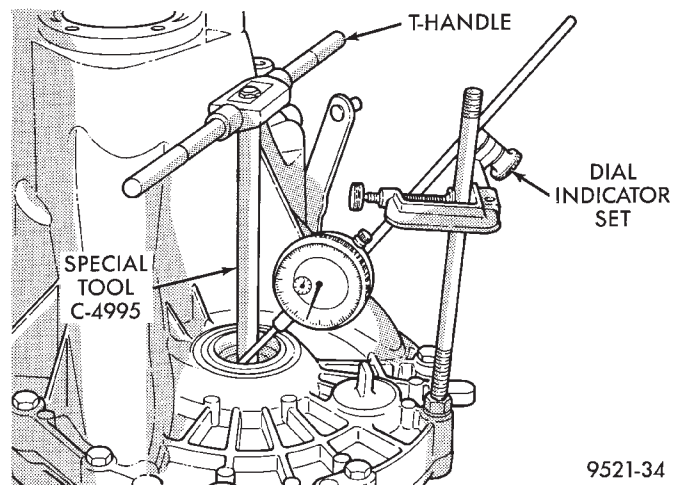

Fig. 151 Checking Differential Bearing End Play to Determine Shim Thickness
(1) Remove bearing cup and existing shim from clutch bellhousing case.
(2) Press in new bearing cup into bellhousing case (or use a cup that has been ground down on the outer edge for ease of measurement).
(3) Press in new bearing cup into gear case side.
(4) Oil differential bearings with Mopar® type M.S. 9417 Manual Transaxle Fluid. Install differential assembly in transaxle gear case. Install clutch bellhousing over gear case. Install and torque case bolts to 29 N-m (21 ft. lbs.).
(5) Position transaxle with bellhousing facing down on workbench with C-clamps. Position dial indicator.
(6) Apply a medium load to differential with Tool C-4995 and a T-handle, in the downward direction. Roll differential assembly back and forth a number of times. This will settle the bearings. Zero the dial indicator. To obtain end play readings, apply a medium load in an upward direction while rolling differential assembly back and forth (Fig. 151). Record end play.